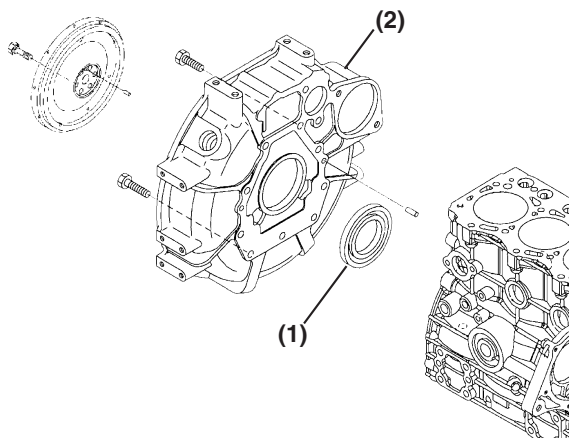

Figure 6-62
4. Remove the rear oil seal (**Figure 6-62, (1)**) from the flywheel housing (**Figure 6-62, (2)**).
5. Apply a continuous bead of ThreeBond Liquid Gasket No. 1212, Yanmar Part No. 977770-01212 to the outside diameter of a new oil seal (**Figure 6-62, (1)**).
6. Install a new seal in the flywheel housing (**Figure 6-62, (2)**) with the lip facing in away from the flywheel. Apply lithium grease to the lip of the seal.